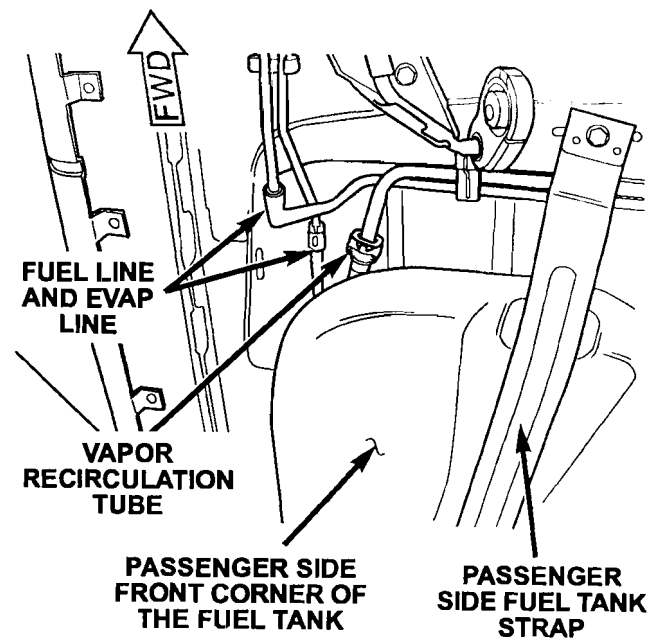

Figure 4
i. Disconnect the fuel line, EVAP line, and vapor recirculation tube located at the right front corner of the fuel tank (Figure 4).
28. Connect the fuel line, EVAP line and vapor recirculation tube located at the right front corner of the fuel tank (Figure 4).